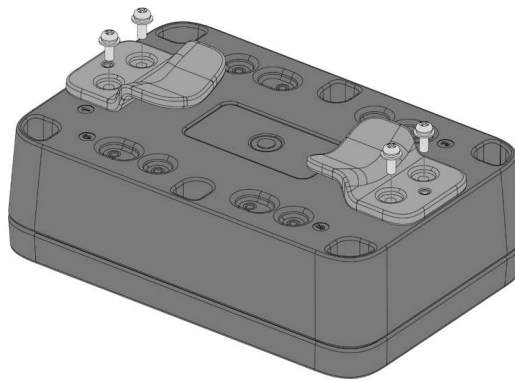

Figure 15: Fixing the pole mount on the enclosure
2. Fix the pole mounts marked with the letter **A** on the WisBlock Unify Enclosure using four (4) pieces of M3*8 mm Head screw with a washer. Place it on fixed positions number **1 & 4** of the enclosure, as shown in **Figure 15**.